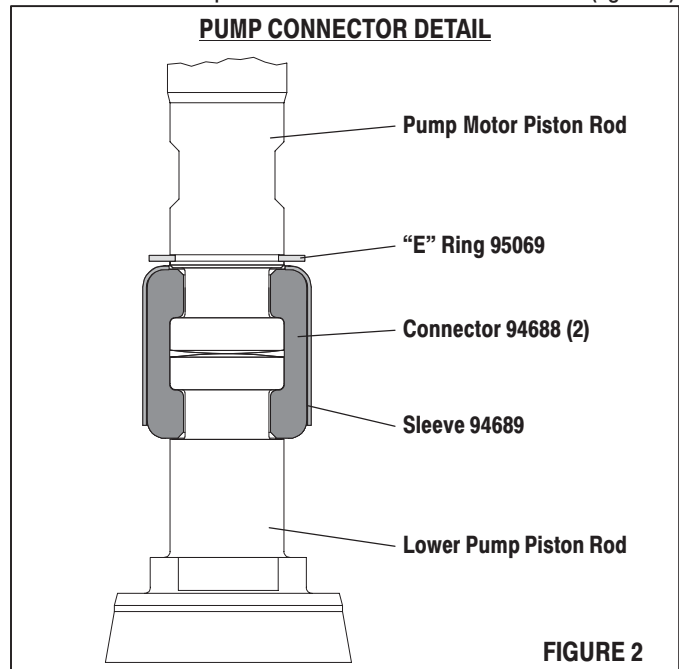

FIGURE 2
5. Using e-ring pliers, slide the “e” ring up far enough to allow the sleeve to move upward and release the two connectors (figure 2).